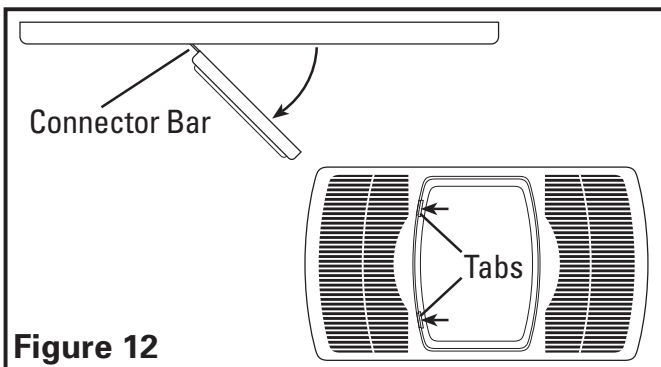

Figure 12
2. Remove grill from carton and open light lens area by pushing in on the two tabs of the light lens and pulling outward from lens. The lens will swing open on the connector bars. DO NOT remove the lens from the grill (Figure 12).